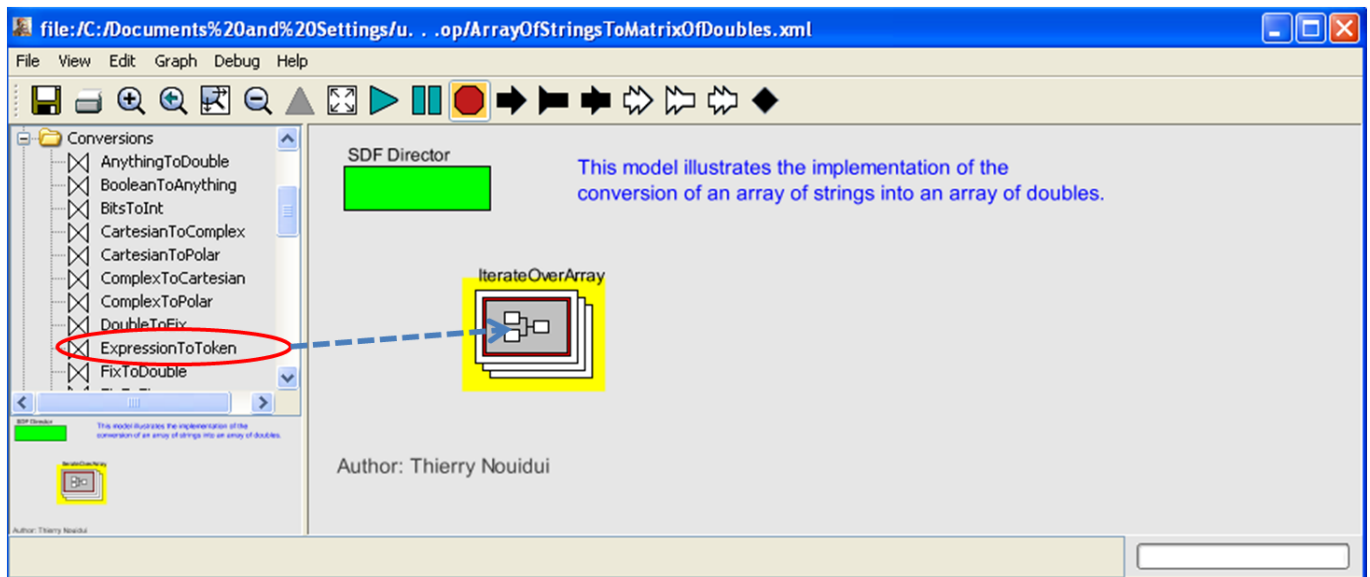

Figure 5.6: Ptolemy II system model that shows the use of the `IterateOverArray` actor.
2. dragging an `ExpressionToToken` actor from the library onto it (See Figure 5.6),